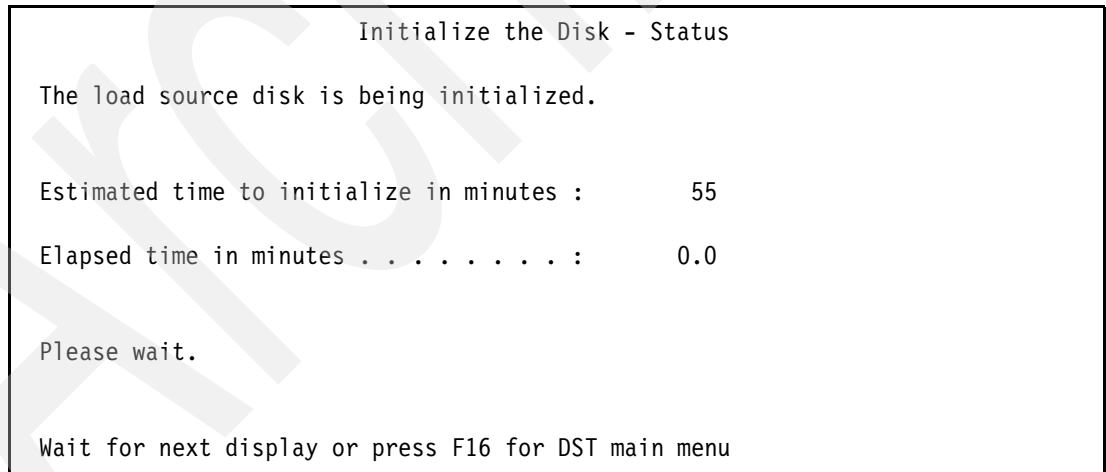

Figure 5-16 Initialize the Disk - Status panel
9. The Initialize the Disk - Status panel displays for a short time (see Figure 5-16). Unlike internal drives, formatting external LUNs on DS8000 and DS6000 is a task that is run by the storage system in the background, that is the task might complete faster than you expect.